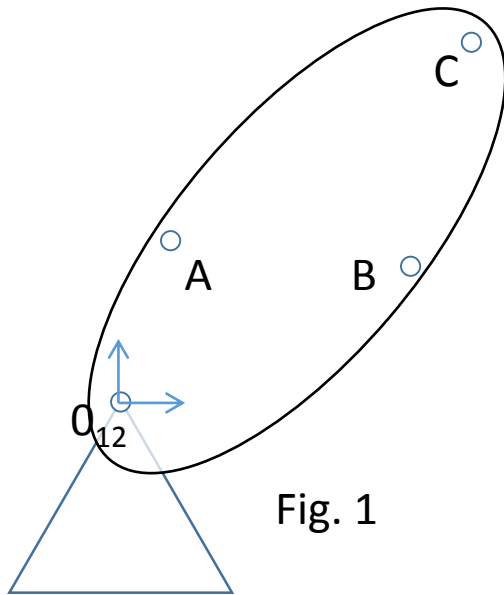

Fig. 1
- Do Now – For figure 1 find the velocity of points A, B and C on the link that is attaches to the pivot point, O_{12}